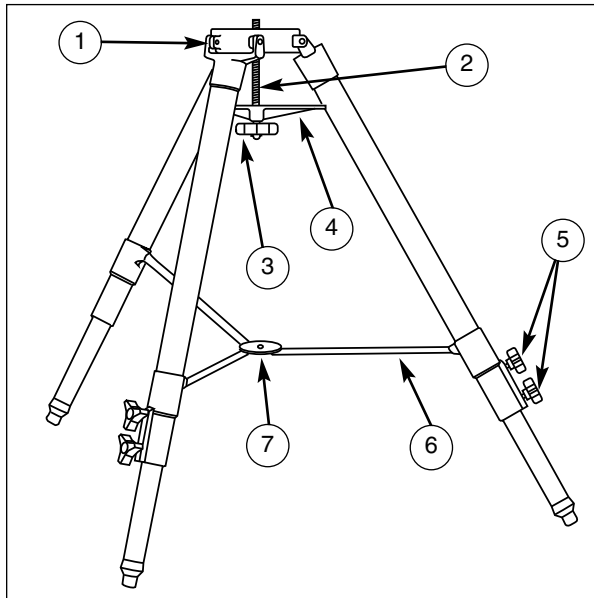
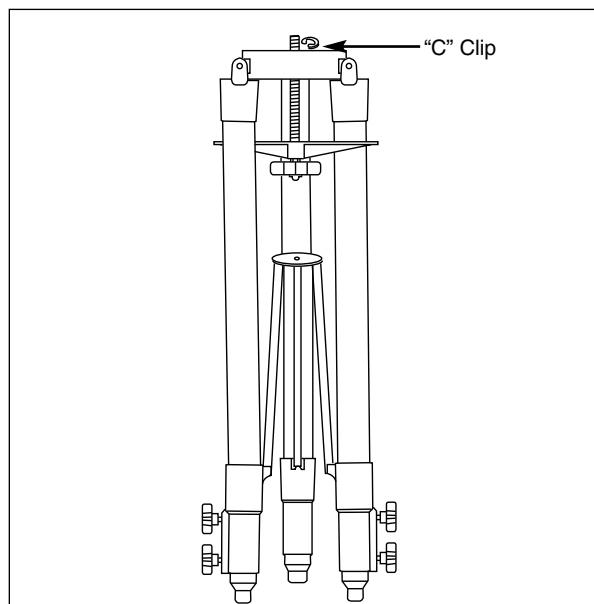

Fig. 2: LX200 Field Tripod. (1) Tripod Head; (2) Threaded Rod; (3) Tension Knob; (4) Spreader Bar; (5) Lock Knobs; (6) Extension Strut; (7) Tension Hub.
Fig. 3: Field Tripod (collapsed).
The field tripods (Figs. 2 and 3) for Meade 8", 10", and 12" LX200 telescopes are supplied as completely assembled units, except for the spreader bar (4, Fig. 2) and the 6 lock knobs (2 knobs for each of the 3 tripod legs) used to adjust the height of the tripod. These knobs are packed separately for safety in shipment.
After removing the field tripod from its shipping carton, stand the tripod vertically, with the tripod feet down and with the tripod still fully collapsed (see Fig. 3). Grasp two of the tripod legs and, with the full weight of the tripod on the third leg, gently pull the legs apart to a fully open position.
Thread in the 6 lock-knobs (2 on each tripod leg) near the foot of each tripod leg (Fig. 2). These lock-knobs are used to fix the height of the inner, extendible tripod leg sections.
The spreader bar (4, Fig. 2) has been removed for shipment. To replace, first remove the threaded rod (2, Fig. 2) from the tripod head (1, Fig. 2); a small piece of plastic holds the threaded rod in place. Remove the small plastic bag that is stapled to the threaded rod. This bag contains the "C" clip clip retainer (used below) and an extra clip.
Slide the spreader bar onto the threaded rod (note the correct orientation as shown in Fig. 2) and position the threaded rod back through the tripod head. Place the clip retainer (a "C" clip) into the slot in the threaded rod. This clip holds the threaded rod in place. See Fig. 3.
Place the entire telescope onto the top of the tripod head, and thread the threaded rod into the central threaded hole in the bottom of the drive base of the telescope. Tighten the tension knob (3, Fig. 2); firm tightening of the tension knob is sufficient to result in rigid positioning of the tripod legs.
- At the base of the tripod is a 3-vane extension strut system, with a circular hub at its center (7, Fig. 2). Grasp the tripod head (1, Fig. 2) with one hand and, with the other hand, pull directly "up" on the central hub of the extension strut system. This operation will cause the tripod legs to move inward to a collapsed position.
- Be sure the spreader bar (4, Fig. 2) is not upside-down on the threaded rod.